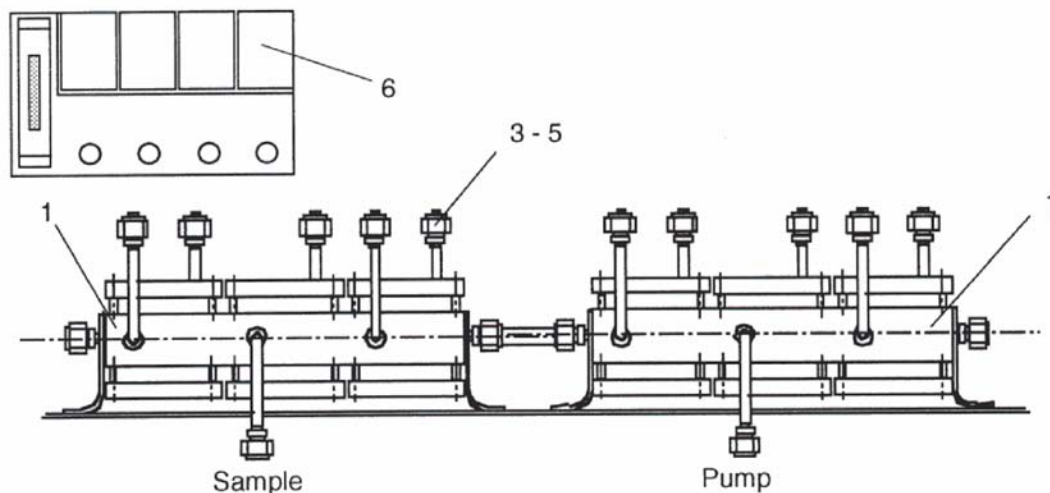

Figure 9-9. Multiport (Part No. 108 3200)
*Refer to Figure 9-9. Pos. 2 and 7 are not shown therein.